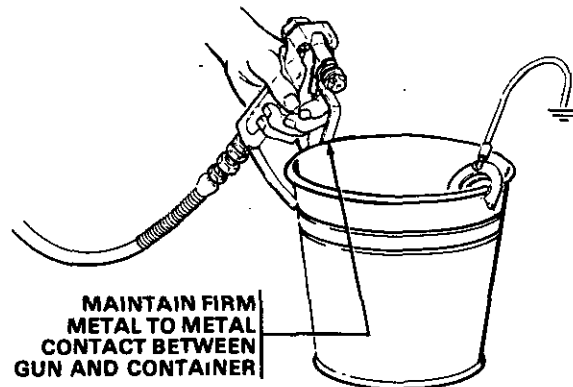

Fig 9
6. Disengage the gun safety latch. Point the spray gun into a grounded metal waste container and with a metal part of the gun firmly touching the metal container, squeeze the gun trigger. See Fig 9. **This procedure helps reduce the risk of static sparking and splashing.** With the gun triggered, turn the ON/OFF switch to ON and slowly turn the pressure adjusting knob clockwise *just until* the sprayer starts. Keep the gun triggered until clean solvent comes from the nozzle. Release the trigger and engage the gun safety latch.